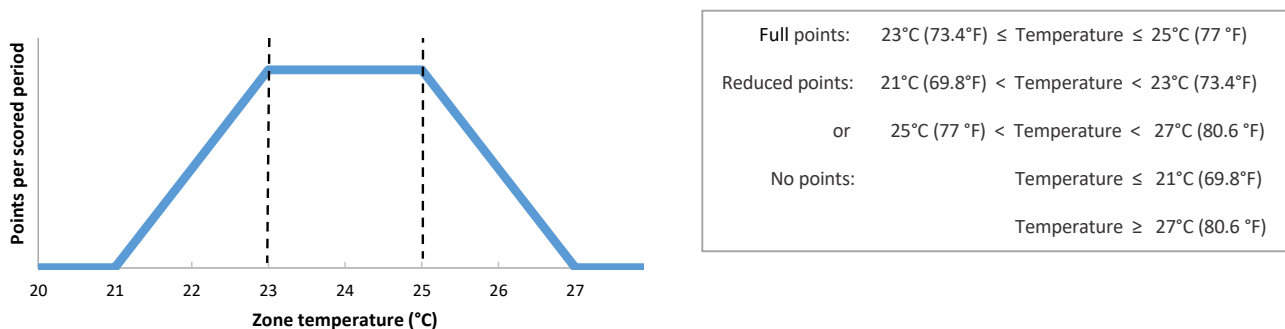

Figure 7: Temperature sub contest point distribution
- Reduced points are earned if the time-averaged interior temperature is between 21°C (69.8°F) and 23 °C (73.4 °F) or between 25°C (77 °F) and 27°C (80.6 °F). Reduced point values will be scaled linearly, as shown in Figure 7.